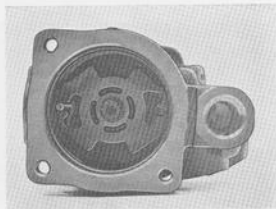

Fig. 6-108. Inner plate fitted
2. Apply universal grease between the lips of the sealing ring (8) and press it in with drift 2997.
3. Place the O-ring (12) in position in the inner groove of the housing.
4. If the bearing (6) has been removed, press the shaft into the bearing. Fit the circlip (7) in its groove.
5. Fit the shaft with bearing. Fit the circlip (5) in its groove.
6. Place the O-ring (13) in its groove on the plate (14). Fit the plate as shown in Fig. 6-108.